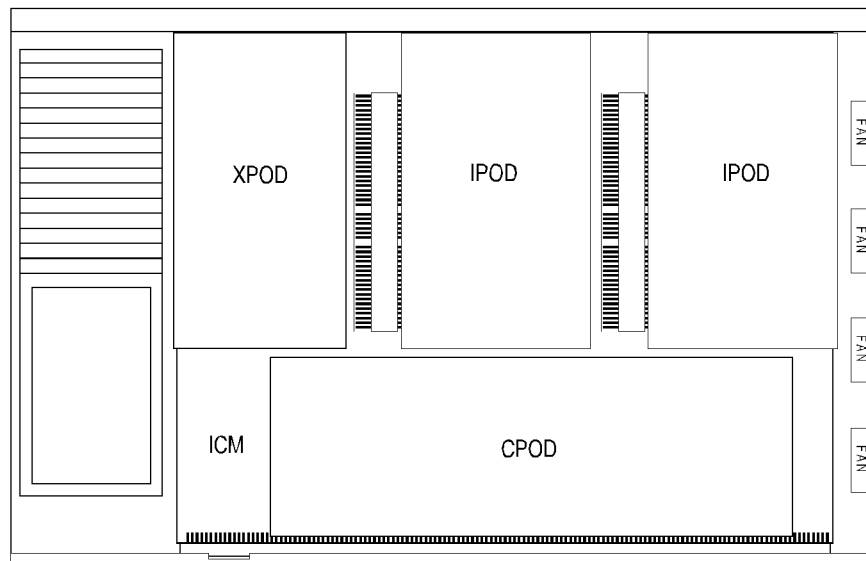

Figure 6-2. SA 100 Field-Replaceable Subassemblies
- c. Slide the cover towards the rear of the SA 100 approximately 1 inch, then lift the cover up and away. This exposes the field-replaceable subassemblies of the SA 100 (see **Figure 6-2**).
The SA 100 may have one or two IPODs, which are located in the left front and center front of its chassis above the ICM (see Figure 6-2).
The SA 100 has one XPOD, which is located in the right front of its chassis, to the left of the power supply assembly and above the ICM (see Figure 6-2).
The SA 100 has one CPOD, which is located in the rear of its chassis above the ICM (see Figure 6-2).
The SA 100 has one ICM, which is located below the CPOD, XPOD, and IPOD(s) (see Figure 6-2).